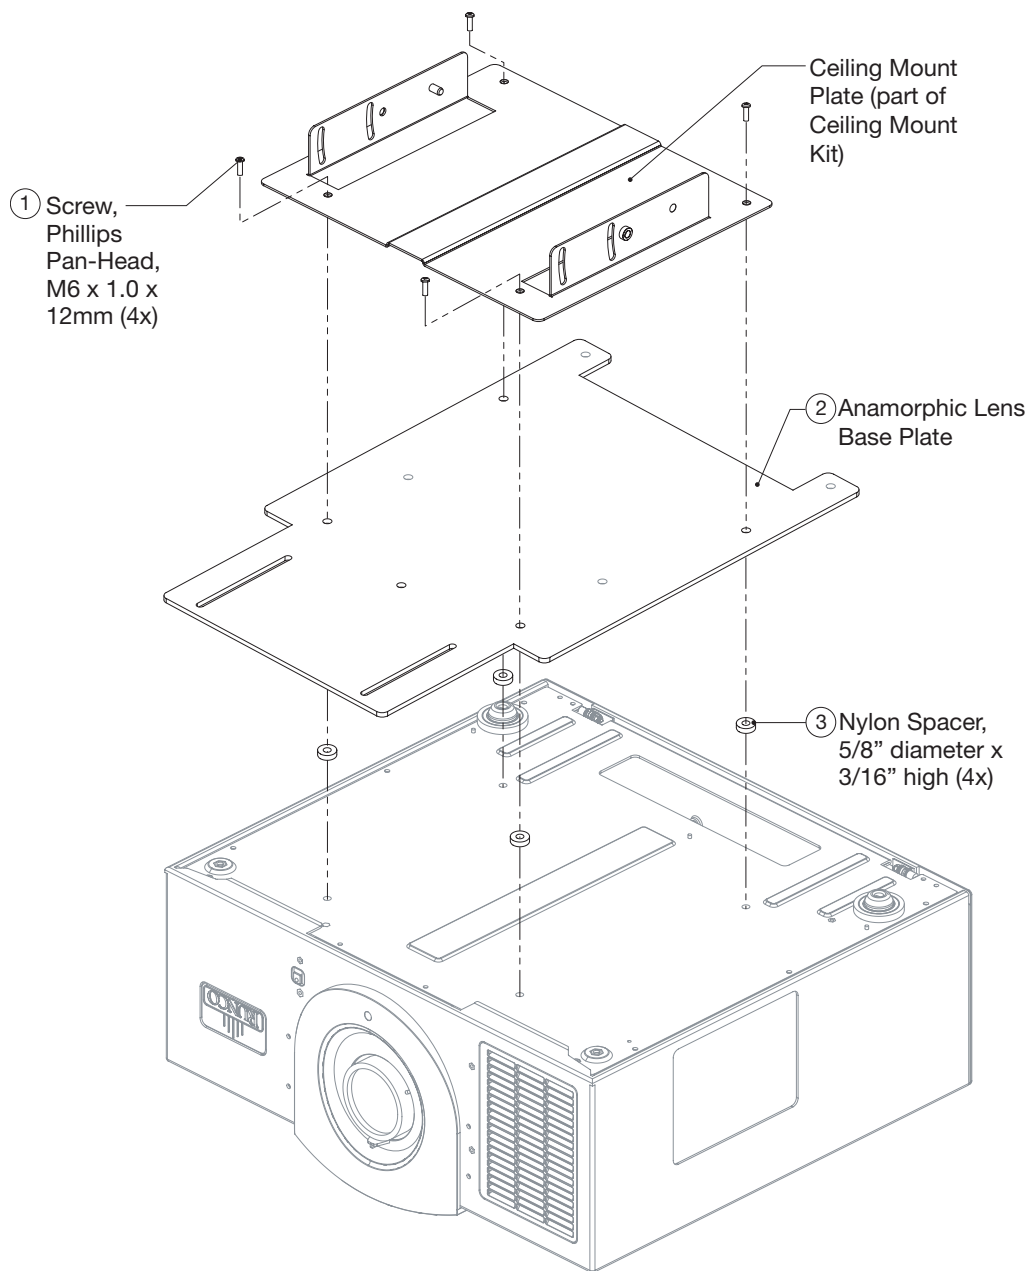
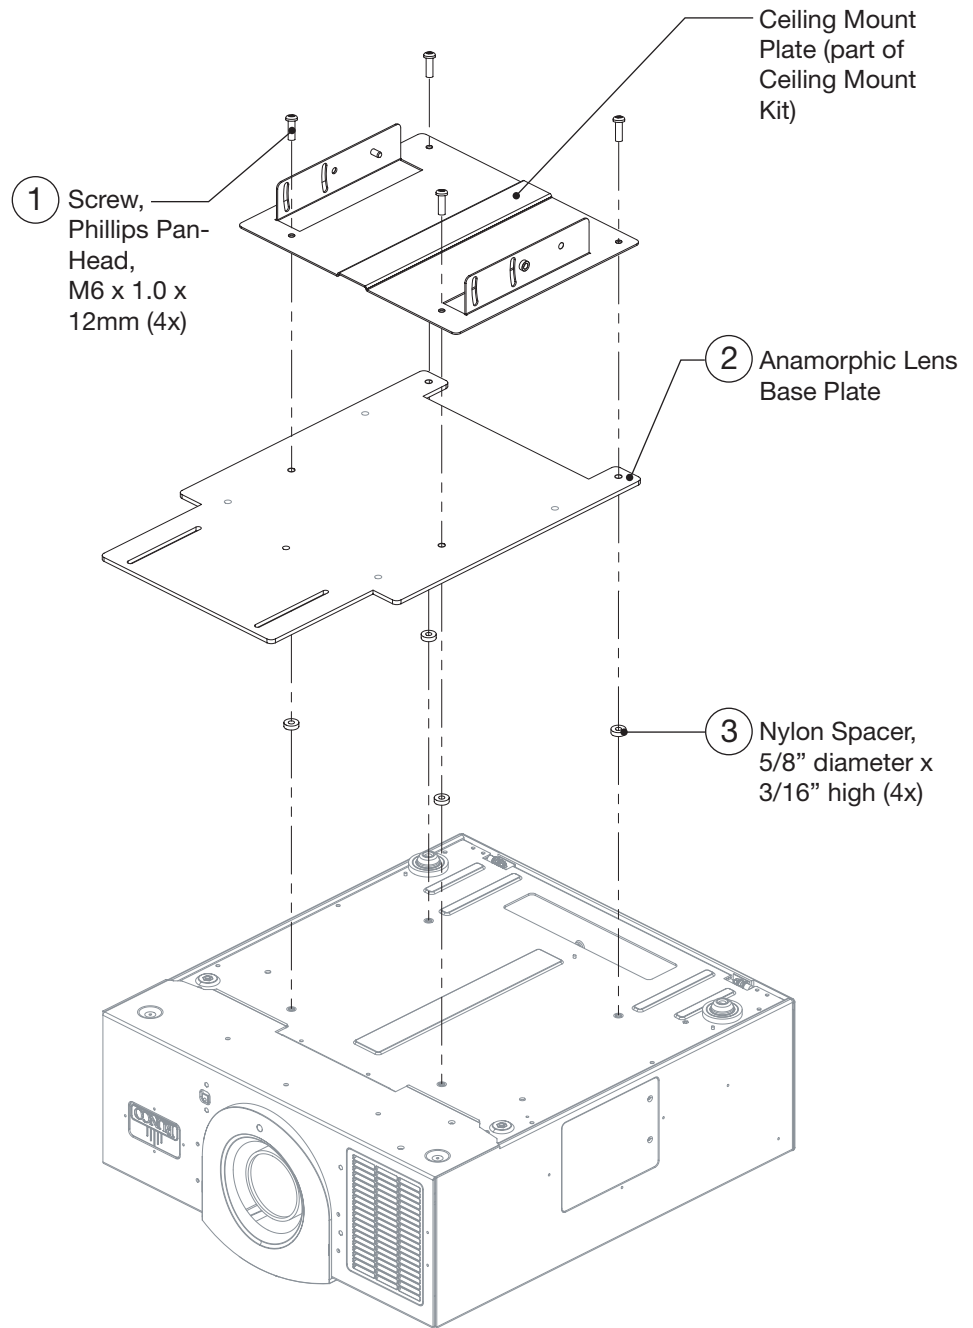

Figure 3-11. VX-3000d/CineWide with Rainier II/McKinley (Cylindrical) Lens Base Plate and Ceiling Mounting Plate - Exploded View
Figure 3-12. VX-3000d Ultra/CineWide with Rainier II/McKinley (Cylindrical) Lens Base Plate and Ceiling Mounting Plate - Exploded View
Figure 3-11 shows the cylindrical (Rainier II/McKinley) lens base plate assembly for a VX-3000d/CineWide.
Figure 3-12 shows the VX-3000d Ultra/CineWide cylindrical (Rainier II/McKinley) lens base plate assembly.
3. Place the CineWide base plate (item #2) on the bottom of the projector. For a standard VX-3000d/CineWide, position the plate as shown in Figure 3-11; for a VX-3000d Ultra/CineWide, position the plate as shown in Figure 3-12.